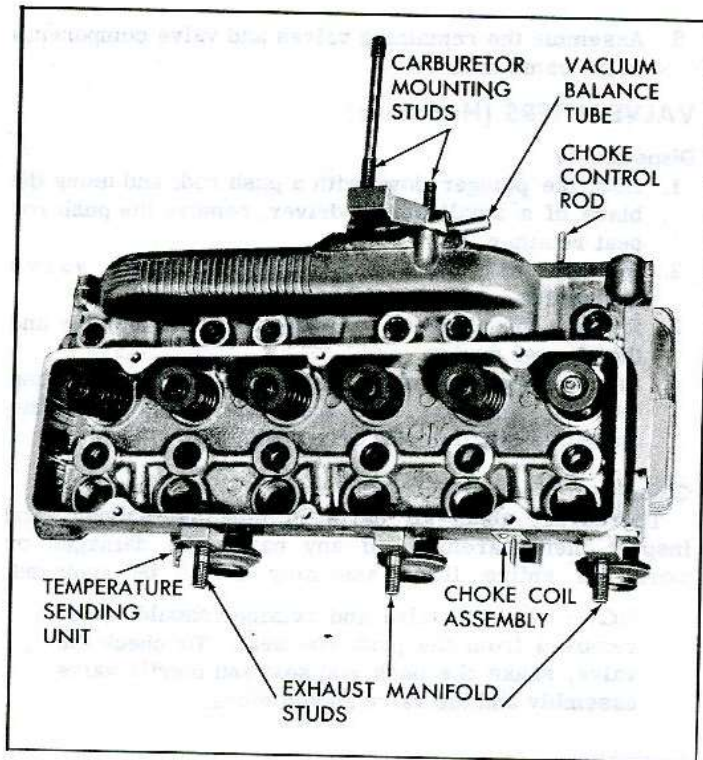

Fig. 91—Cylinder Head Assembly
1. Install long stud 5/16"-18-24 x 4-13/16", using Tool J-8534-2, in intake manifold flange (fig. 91) on left and right bank cylinder heads to a length of 4-3/16".
3. Install exhaust manifold studs (fig. 91) using Tool J-8354-3 into cylinder head to a length of 31/32".
NOTE: Cylinder Heads are identical except for location of vacuum balance tube hose connector (fig. 91) which is on one side of carburetor mounting pad on the right bank and the other side of the left bank. Install tube in hole to front of cylinder head and plug in hole to rear of cylinder head (as positioned on vehicle).